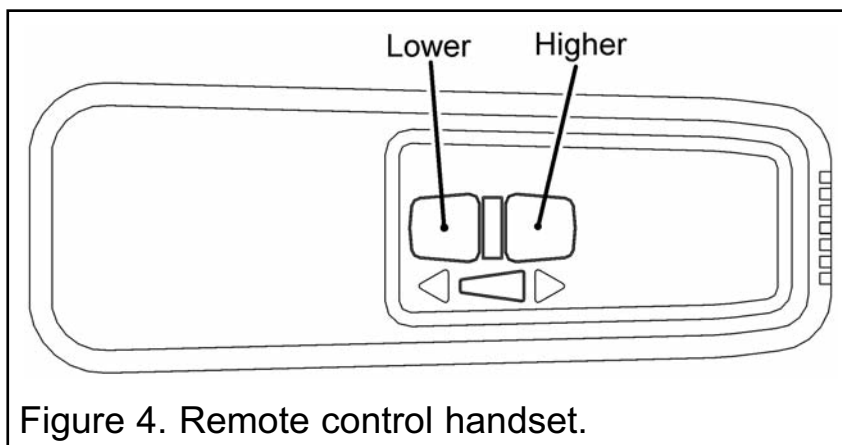

Figure 4. Remote control handset.
1. Keep the pilot burner at the "main burner on" position. Check the full range of main burner heat settings using the remote control handset. In order to vary the flame effect between High and Low positions, press, and keep depressed, either the High button, or the Low button as appropriate (See figure 4).